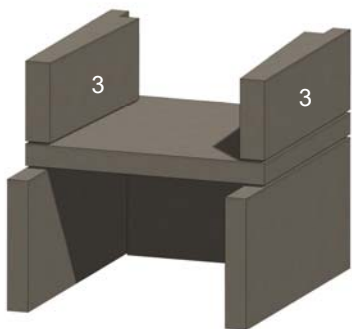

Figure 11. Lower Sidewalls
E. Install the lower sidewalls (3), ensuring they are level and square. See Figure 11.